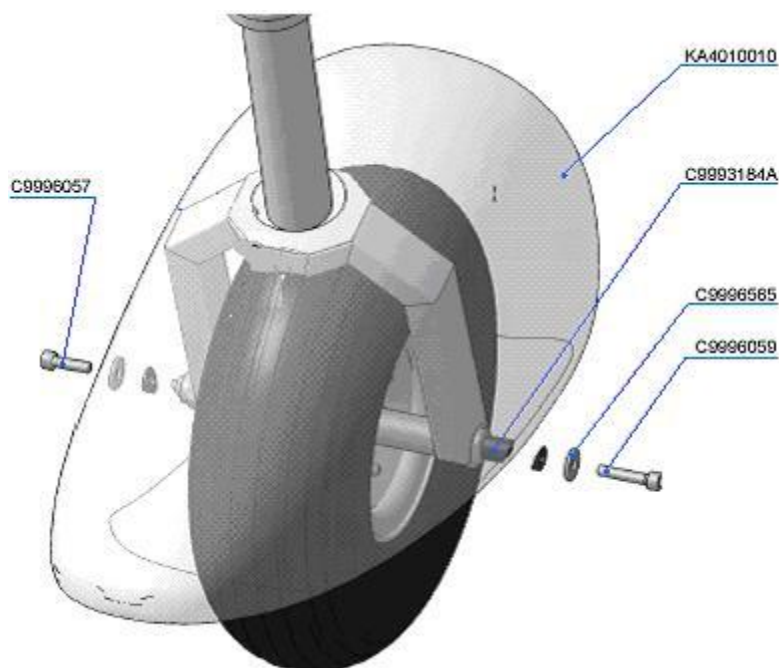
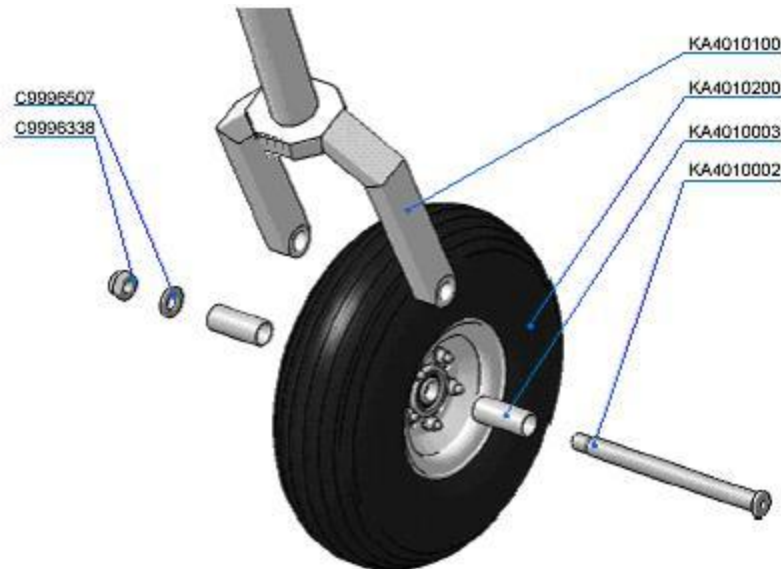

Fig. 5
Fig. 6
- 4) Unscrew the nut C9996338 (Self-locking nut DIN 985-M12, regular), Fig. 6, by two wrenches 17x19 and remove the axle KA4010002 (Wheel axis).
- 10) Wheel installation is reverse to removal. Replace C9996338 (Self-locking nut DIN 985-M12), Fig. 6, to a new one. Secure the screws C9996059 (Bolt DIN 912 M6x30-8.8), Fig. 5, by lock liquid of middle strength Loctite 243.